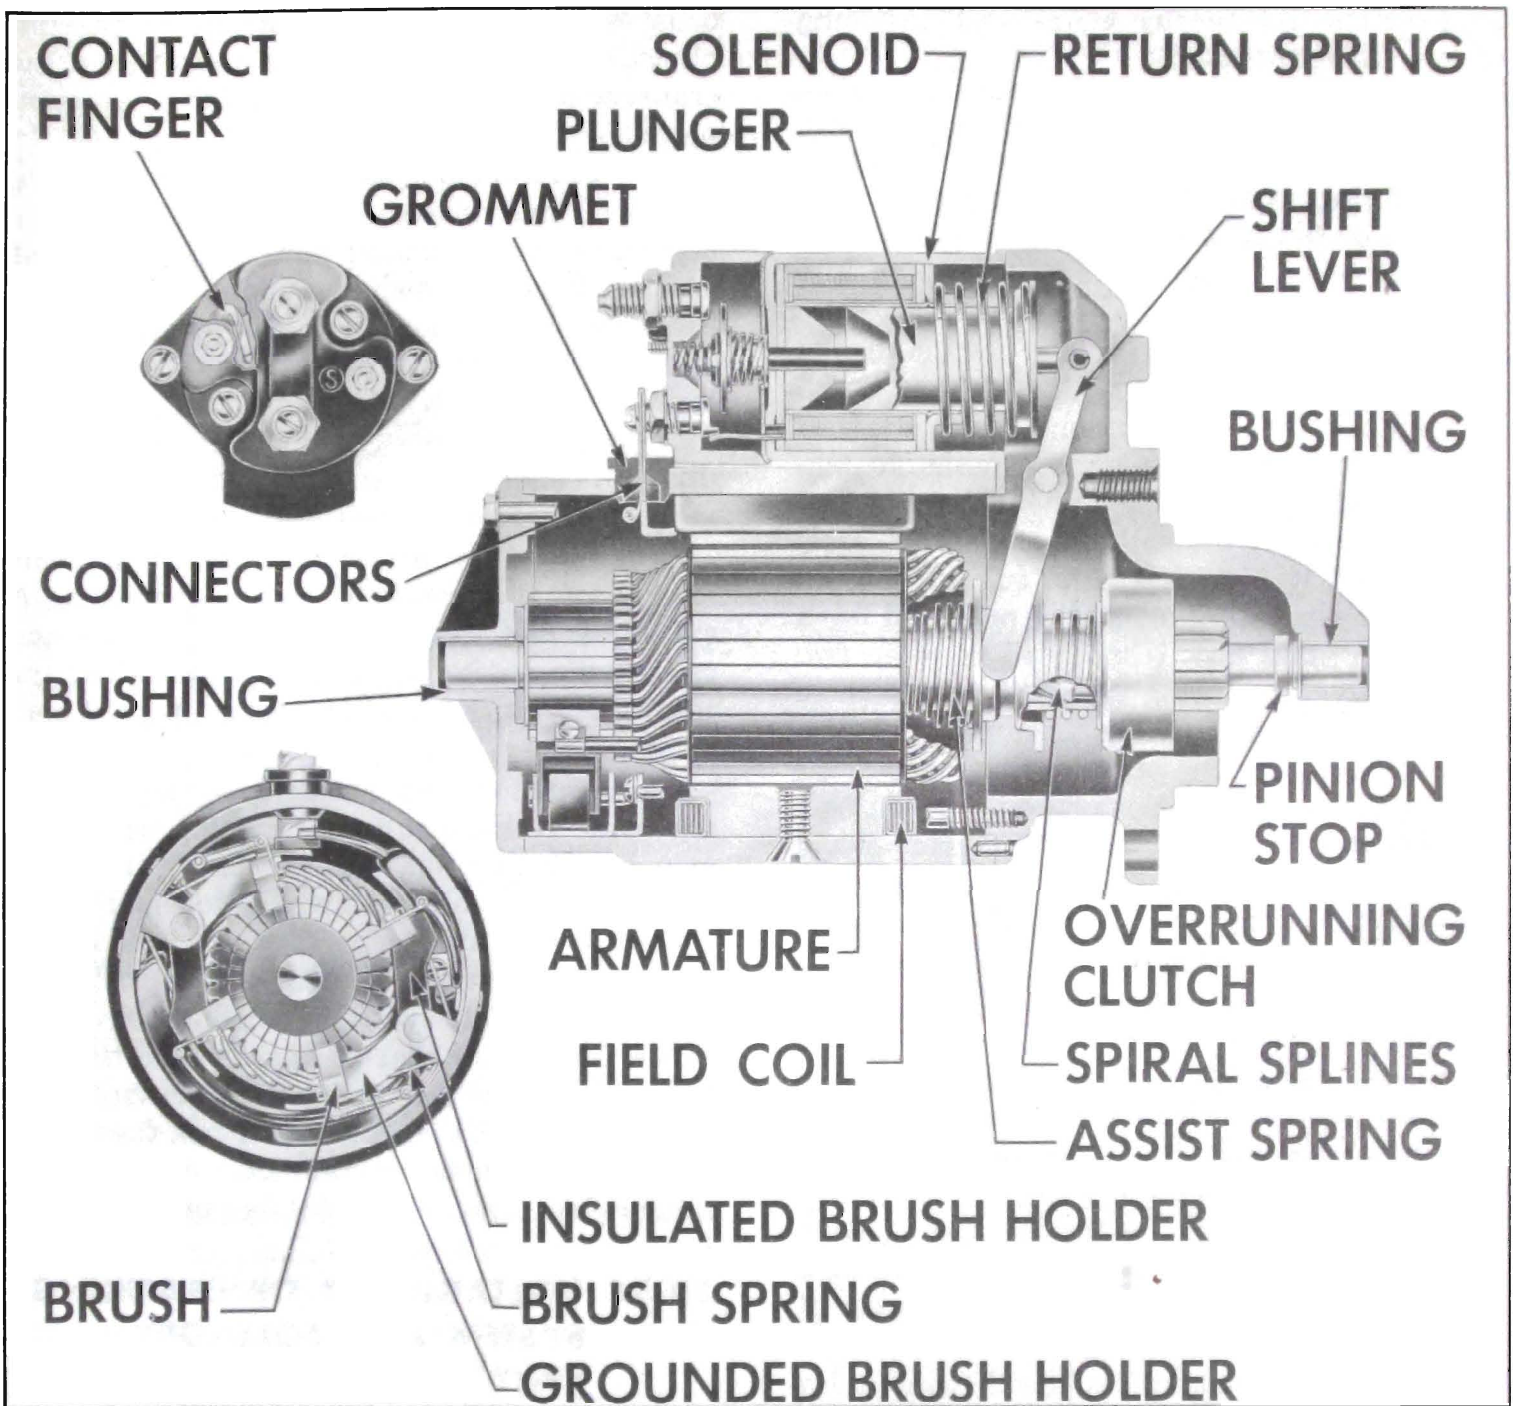

Figure 10-26—Cranking Motor—Sectional View
The cranking motor assembly consists of a motor, drive assembly, shift lever, and solenoid switch. See figure 10-26. It is mounted on the flywheel upper housing on the left side of engine.
noid switch plunger by a link and adjusting screw. See figure 10-26.
The solenoid section of the switch has a plunger and two windings, the "pull-in" winding and the "hold-in" winding. Together, they provide sufficient magnetic attraction to pull the solenoid plunger into the solenoid. The plunger actuates the shift lever and drive assembly and it also closes the solenoid switch contacts by pressing against a push rod upon which a contact disk is mounted between two coil springs. One spring serves as a cushion to insure firm contact of the disk with two stationary contacts. The other spring pushes the disk away from the stationary contacts to break the circuit when the solenoid is demagnetized after the engine starts. One stationary contact is connected to the battery positive cable and the other is connected to the motor windings through a connector or bus bar. See figure 10-26.
2. Connect a 12-volt battery, a variable resistance, and an ammeter of 100 amperes capacity in series with solenoid "S" terminal. See figure 10-26 for location of "S" terminal. Connect a heavy jumper wire from solenoid base to ground post of battery.
When it is necessary to disassemble cranking motor for any reason, make a complete clean-up and inspection to make sure all parts are in satisfactory condition. See figure 10-26 for identification of parts.
6. Remove two screws holding solenoid to drive housing and remove solenoid. Remove small nut and insulating washer from the solenoid "S" terminal. Remove large nut and insulating washer from the solenoid battery terminal. See figure 10-26. Then remove two screws that attach switch cover to solenoid